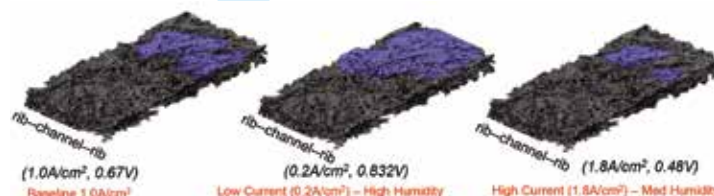

Figure 1.
To understand heat, mass transport, and other physics such as electrochemical and electrokinetics inside renewable energy and bioenergy devices, the multiphysics simulation of fluid mechanics is necessary for research and development in these areas because those physics cannot be easily obtained by just performing experiments. For example, the water management inside a polymer electrolyte membrane (PEM) fuel cell (FC) is very important for maximizing its performance, since the byproduct of electrochemical reaction is not only electrical power but also water and heat. Condensed water inside a PEMFC can decrease its performance significantly, especially when it is clogged inside very thin (10 to 150 micrometer) porous layer, thus blocking the oxygen flowing to the catalyst surface and reducing oxygen transport to the oxygen reduction reaction (ORR). Computational simulation of this phenomena can definitely help researchers and developers to improve the design of porous materials and optimize operating condition of PEMFCs in order to maximize the ORR. Figure 1 shows an example of a XFlow simulation of water condensation and its evolution in side porous layers [1]. It can be seen that by changing operating conditions, liquid water presented inside this layer will be different. The results from the simulations can help improve the novel porous layer design, by the modification of catalyst and gas diffusion layer structures, and/or the dispersion of a platinum a deleted catalyst. Furthermore, this work should reduce cost and development time for improving PEMFC design. All research projects I have done and been doing will give great impact to several kinds of industry such as electric power, automotive, solar energy, gas, pharmaceutical, and porous-material industries. All of them require the deepest knowledge of transport phenomena to enhance their products and services for a sustainable future.